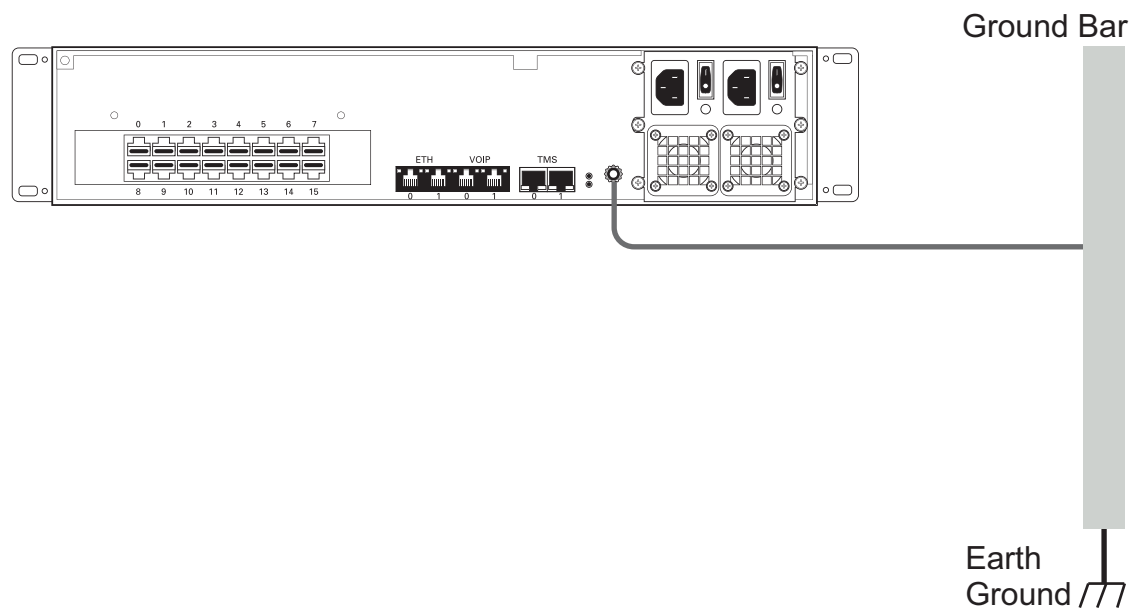

Figure 2.8 Chassis Ground Connection
- Do NOT daisy chain the ground between equipment. Use a ground bus bar, as show in figure 2.8 on page 25.
1. Connect one end of a ground wire to the ground lug of the 3200 series gateway. See figure 2.8 on page 25.